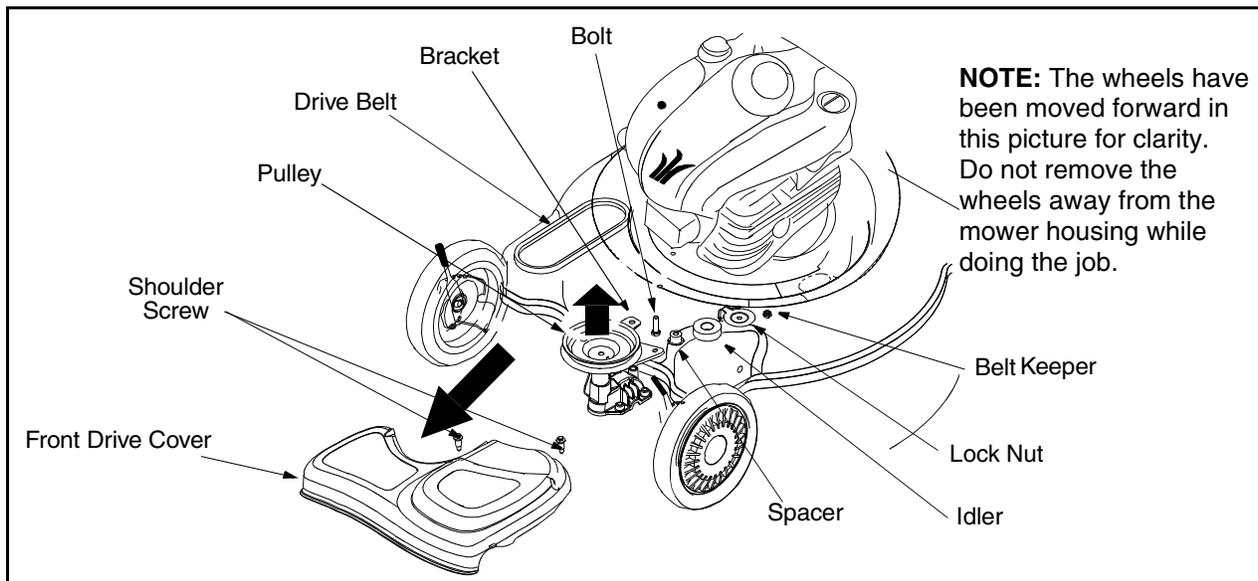

Figure 21
- Remove the two shoulder screws from on top of the deck which secure the front drive cover to the mower deck. See Figure 21.
- Remove the idler and hardware from the idler bracket using 7/16" wrench and socket. See Figure 21.
- Remove the belt from the transmission pulley as shown in Figure 21.